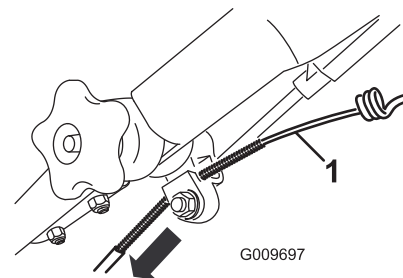

Figure 45
- Pull the cable jacket downward until you remove the slack in the exposed cable (Figure 45).